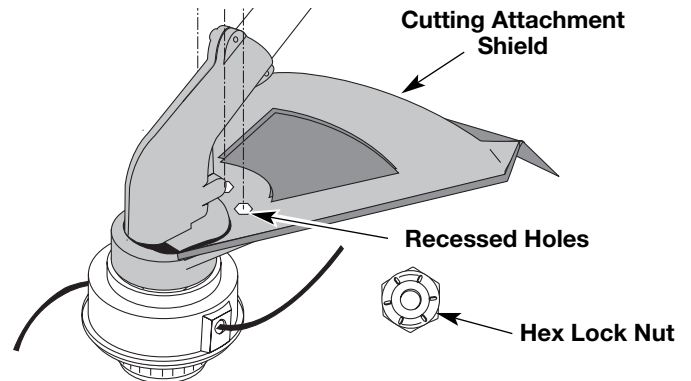

Fig. 4
2. Place a hex lock nut into one of the three recessed holes on the top of the cutting attachment shield (Fig. 4).